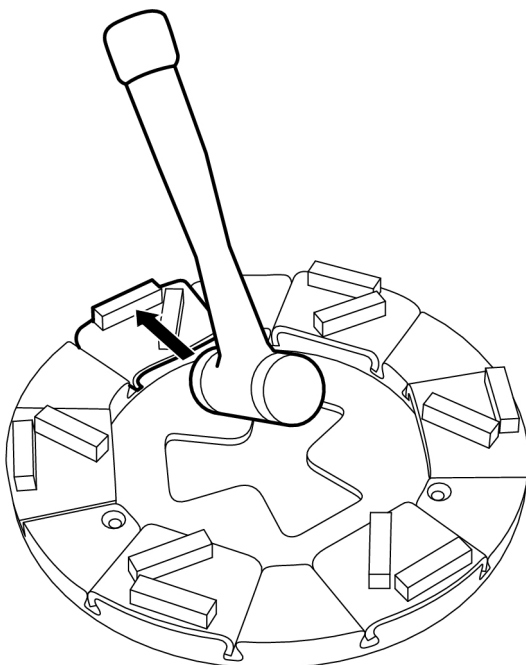

Figure 4-14. Removing grinding tools
2. Lock the grinding tool into the tool holder by giving it a few light taps with a hammer, see Figure 4-14, page 25.
3. Lock the grinding tool into the tool holder by giving it a few light taps with a hammer, see Figure 4-14, page 25.